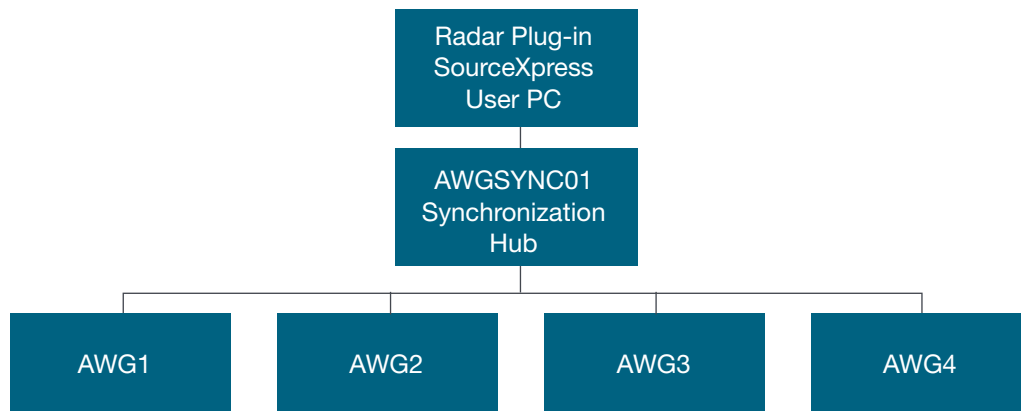

Figure 5: Synchronization hub use model
4. Use SourceXpress installed on a user PC connected to an AWGSYNC01 synchronization hub (see Figure 5 - Synchronization hub use model)